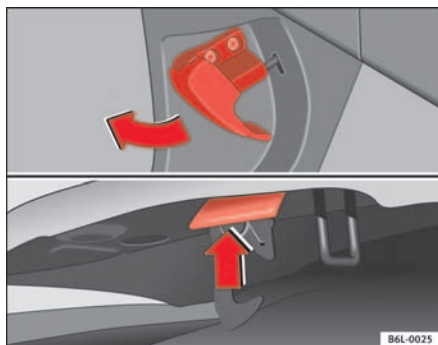

Fig. 121 Detail of the foot well: The release lever for the bonnet is located in the driver side foot well
- To release the bonnet, pull the lever under the dashboard ⇒ fig. 121 in the direction indicated (arrow). The bonnet will be released by a spring action ⇒ ⚠.